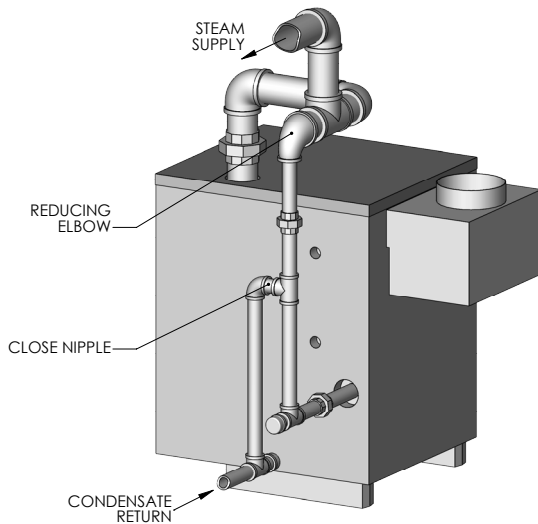
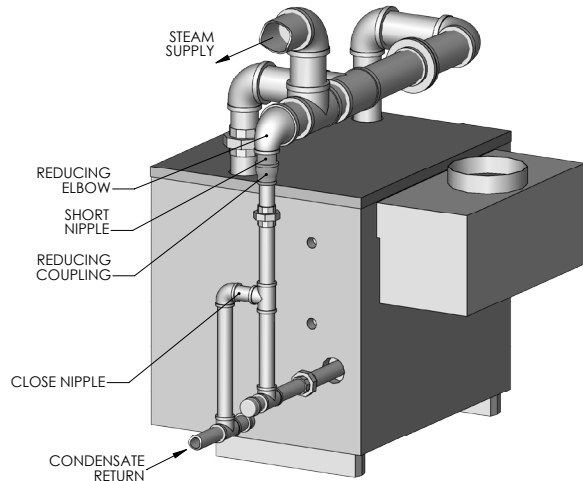

Figure 4.3: Steam Piping – Single Supply Connection
Figure 4.4: Steam Piping – Dual Supply Connections
2. Install steam supply pipes as shown in Figure 4.3 for Model 63-03 to 64-07 and Figure 4.4 for Model 64-08 to 64-12. See Table 4.1 for pipe size information.
5. Connect the equalizing line as shown in Figure 4.3 or 4.4 assuring that the reducing elbow is facing down and that any bushings are vertical to prevent water build-up in the steam header.